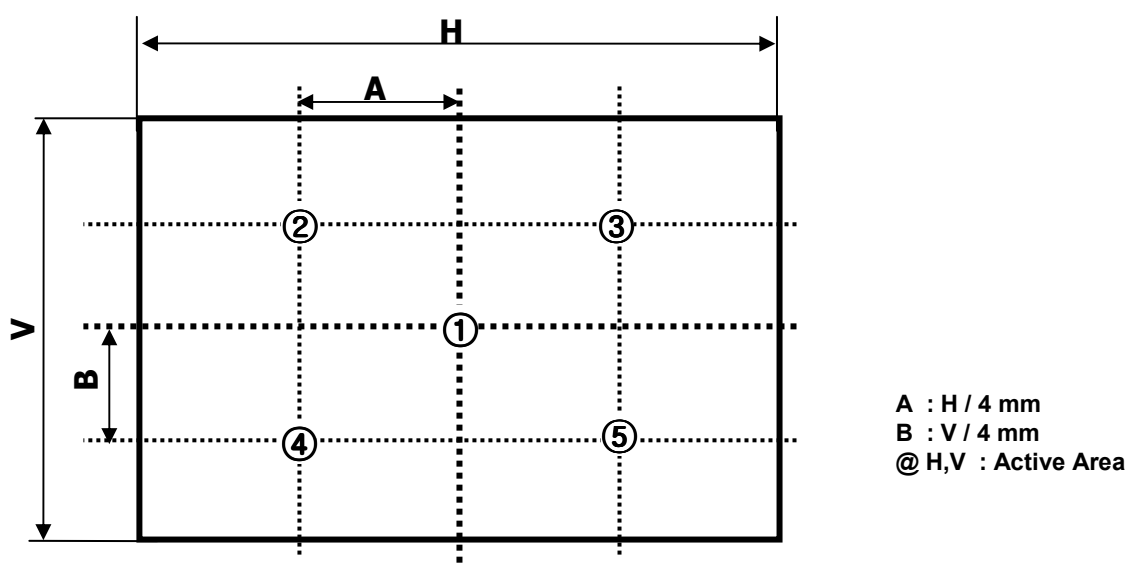

FIG. 2 5 Points for Luminance Measure
n = the Position number(1, 2, 3, 4, 5). For more information, see FIG. 2.
2. Surface luminance are determined after the unit has been 'ON' and 30min after lighting the backlight in a dark environment at 25±2°C. Surface luminance is the luminance value at center 1-point across the LCD surface 50cm from the surface with all pixels displaying white. For more information see the FIG. 2.
For more information, see the FIG. 2.